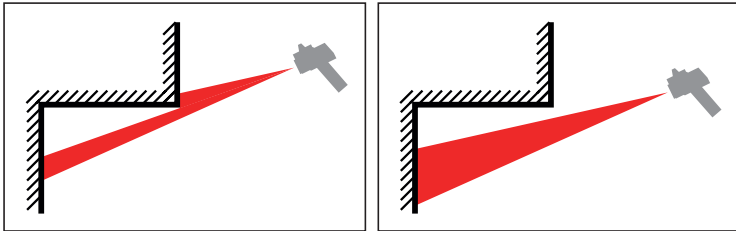
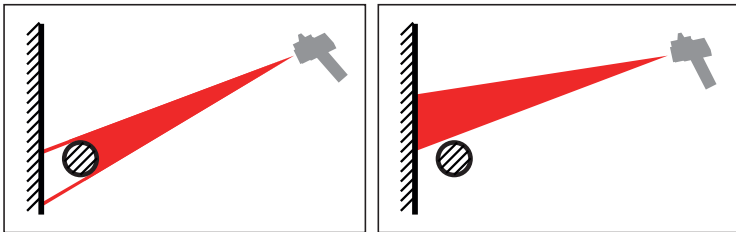

Fig. 16: Error source during measuring (1)
Fig. 17: Error source during measuring (2)
- There are obstructions along the measuring section (fig. 16 and fig. 17).